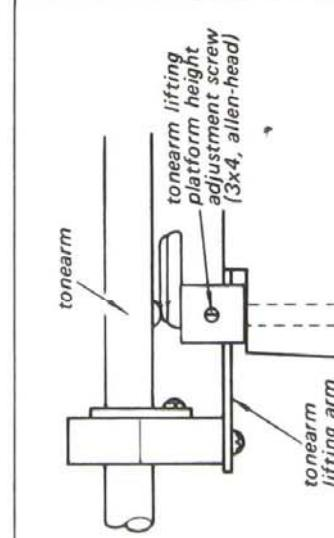

Fig. 3-2. Tonearm height adjustment (2)
- If necessary, adjust the height of the tonearm lifting platform by loosening the its adjustment screw shown in Fig. 3-2.